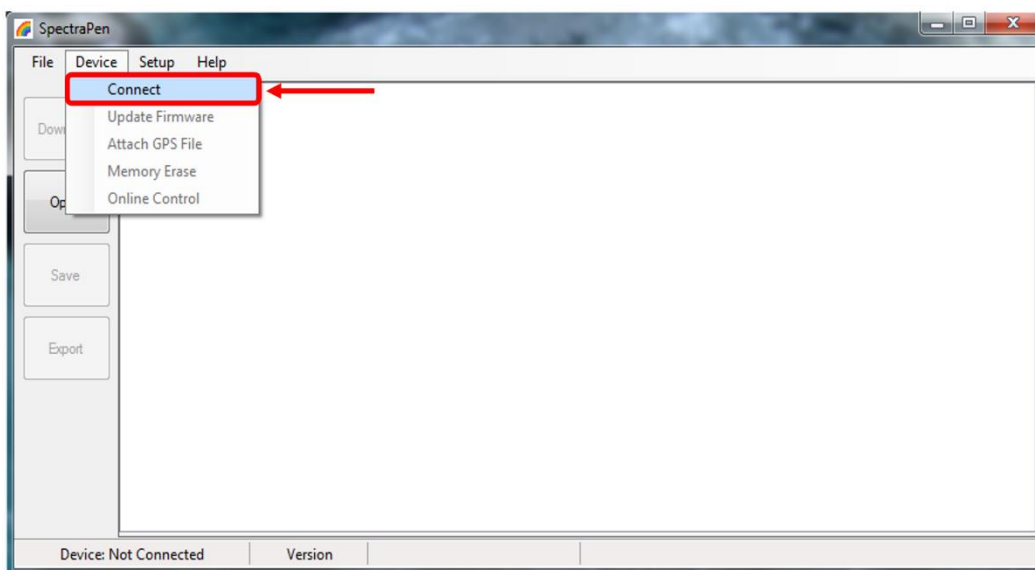

Fig. 20 SW connection.
5. Connect PolyPen device in SpectraPen software, **Device > Connect** (Fig. 20).